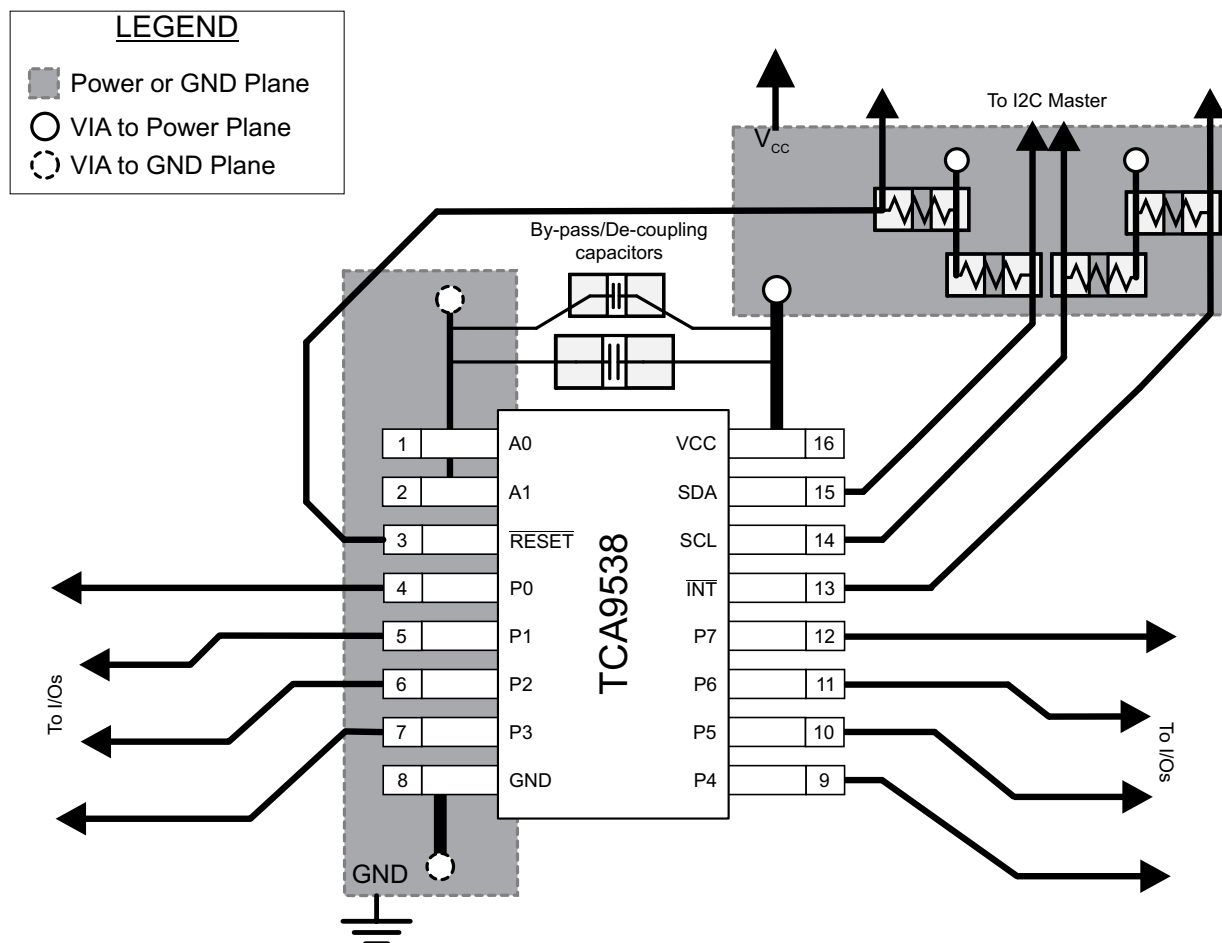

Figure 32. TCA9538 Layout
In all PCB layouts, it is a best practice to avoid right angles in signal traces, to fan out signal traces away from each other upon leaving the vicinity of an integrated circuit (IC), and to use thicker trace widths to carry higher amounts of current that commonly pass through power and ground traces. By-pass and de-coupling capacitors are commonly used to control the voltage on the VCC pin, using a larger capacitor to provide additional power in the event of a short power supply glitch and a smaller capacitor to filter out high-frequency ripple. These capacitors should be placed as close to the TCA9538 as possible. These best practices are shown in Figure 32.
For the layout example provided in Figure 32, it would be possible to fabricate a PCB with only 2 layers by using the top layer for signal routing and the bottom layer as a split plane for power (V_{CC}) and ground (GND). However, a 4 layer board is preferable for boards with higher density signal routing. On a 4 layer PCB, it is common to route signals on the top and bottom layer, dedicate one internal layer to a ground plane, and dedicate the other internal layer to a power plane. In a board layout using planes or split planes for power and ground, vias are placed directly next to the surface mount component pad which needs to attach to V_{CC} or GND and the via is connected electrically to the internal layer or the other side of the board. Vias are also used when a signal trace needs to be routed to the opposite side of the board, but this technique is not demonstrated in Figure 32.